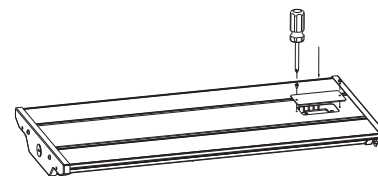

Figure 14
Step 3. Remove the breakable plate for microwave sensor in driver box, install microwave protection plate. (Figure 14)